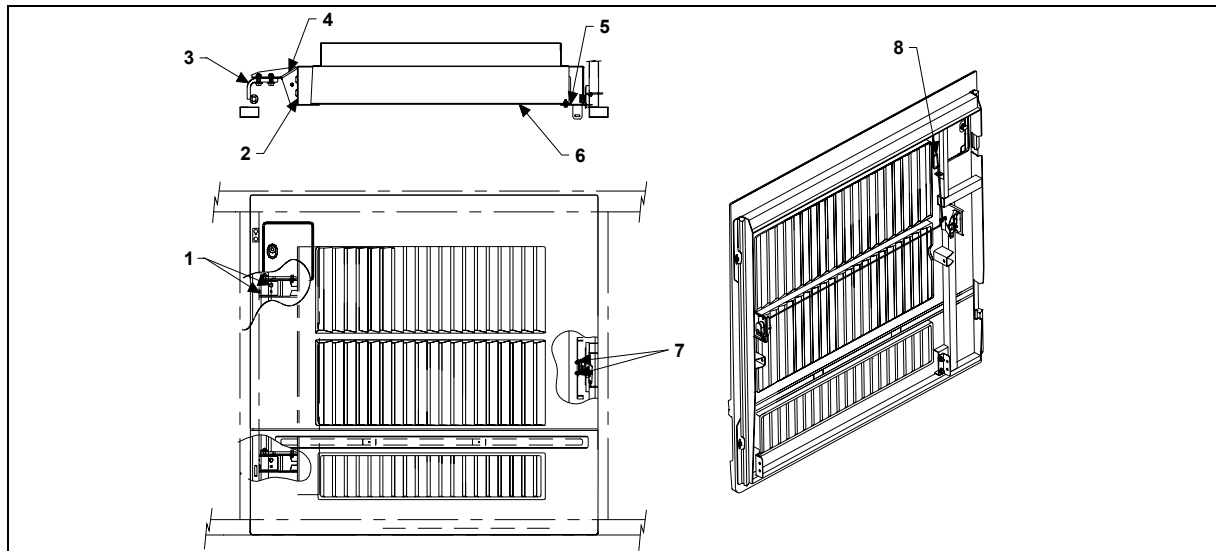

FIGURE 57: CONDENSER DOOR
2. Loosen the nuts (1, Fig. 57) holding the hinge (3, Fig. 57) to hinge attachment (4, Fig. 57). Loosening nuts (1, Fig. 57) allows the condenser assembly to be shifted "LEFT or RIGHT" and "UP or DOWN".
5. Loosen bracket nuts holding the panel to condenser. Panel (6, Fig. 57) may be shifted "IN or OUT", "LEFT or RIGHT" and "UP or DOWN".
6. Adjust condenser panel at brackets (2, Fig. 57) and (5, Fig. 57).